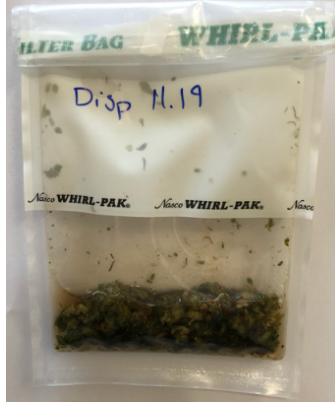

Figure 3: Homogenized cannabis flower and PDB
9. If processing multiple samples, be sure to change gloves between each sample to ensure that there is no cross-contamination between samples during the weighing process. See flower example in Figure 3.